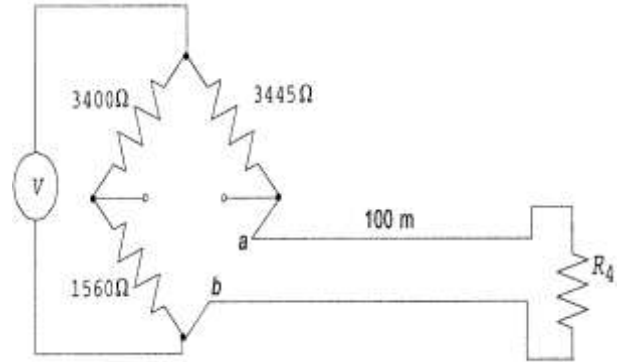

Fig.1
a) A bridge circuit shown in Fig. 1 is used with a sensor located 100m away. The bridge is not lead compensated, and the cable to the sensor resistance of 0.45Ω/ft. The bridge nulls with $R_1=3400\Omega$, $R_2=3445\Omega$, and $R_3=1560\Omega$. What is the sensor resistance?